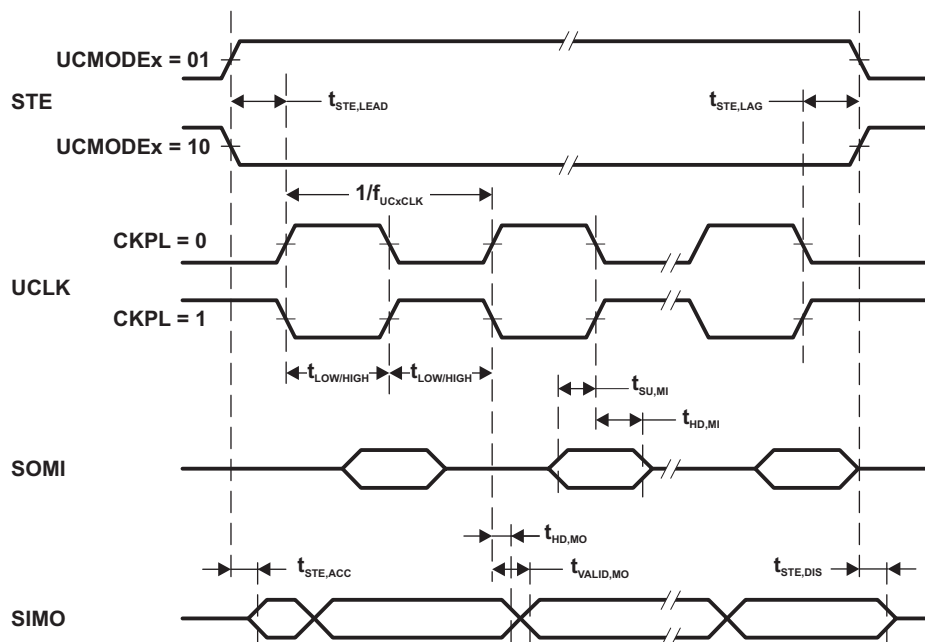
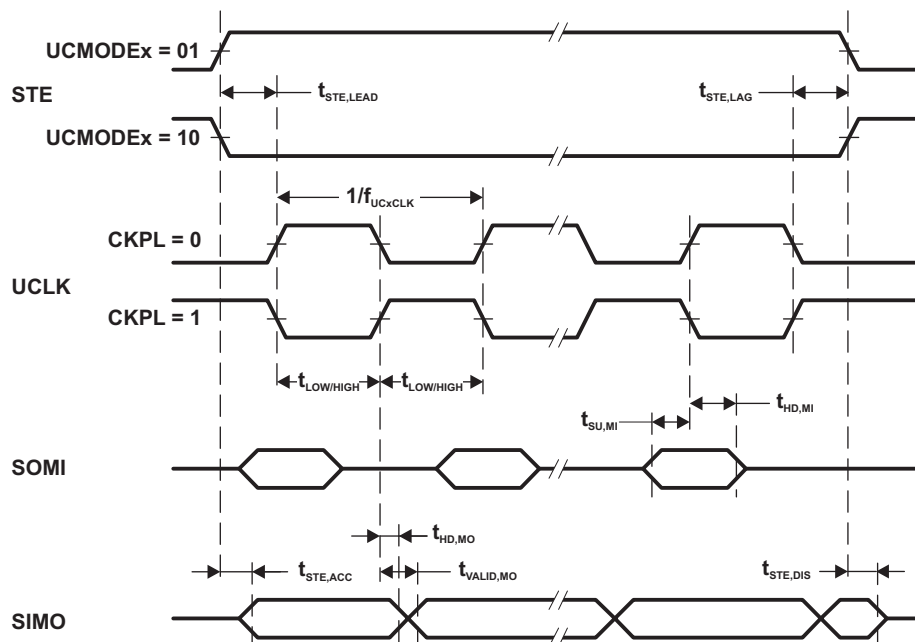

Figure 5-15. SPI Master Mode, CKPH = 0
Figure 5-16. SPI Master Mode, CKPH = 1
- (1) f_{UCxCLK} = 1/2t_{LO/Hi} with t_{LO/Hi} = max(t_{VALID,MO(eUSCI)} + t_{SU,SI(Slave)}, t_{SU,MI(eUSCI)} + t_{VALID,SO(Slave)}). For the slave parameters t_{SU,SI(Slave)} and t_{VALID,SO(Slave)}, refer to the SPI parameters of the attached slave.
- (2) Specifies the time to drive the next valid data to the SIMO output after the output changing UCLK clock edge. Refer to the timing diagrams in Figure 5-15 and Figure 5-16.
- (3) Specifies how long data on the SIMO output is valid after the output changing UCLK clock edge. Negative values indicate that the data on the SIMO output can become invalid before the output changing clock edge observed on UCLK. Refer to the timing diagrams in Figure 5-15 and Figure 5-16.